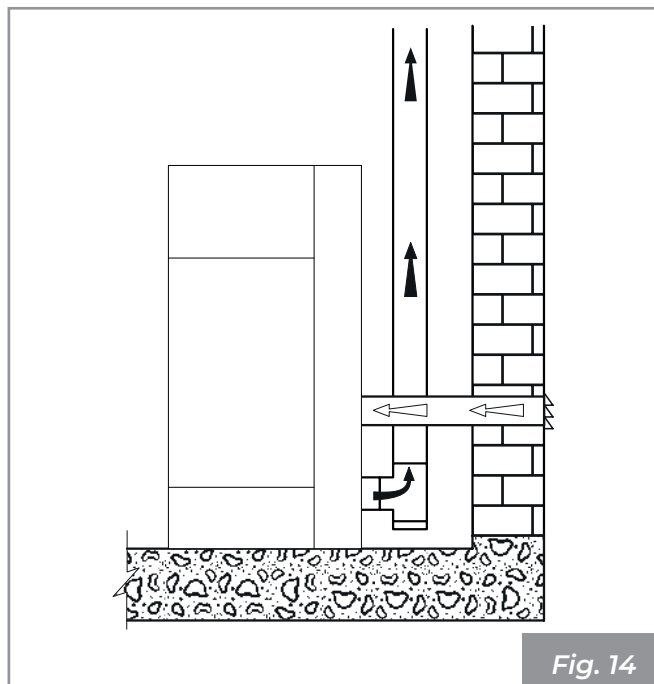

Fig. 14
- it can come directly from outside with direct connection to the combustion chamber (**Fig. 14**).
Connect the combustion air inlet of the appliance to the air intake using a special pipe (**Fig. 14**).